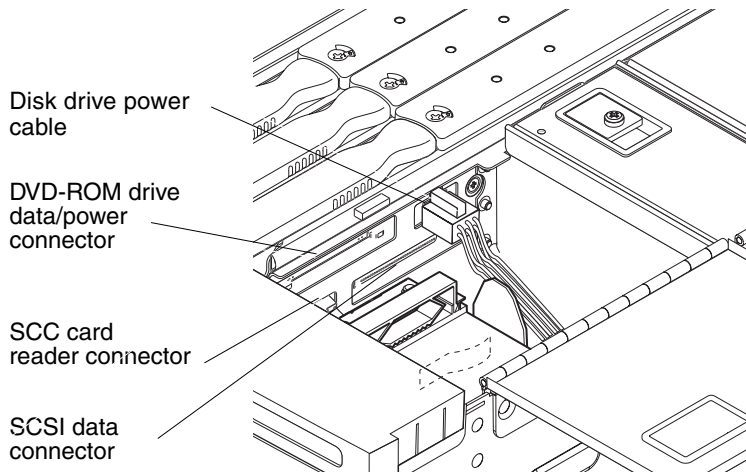

FIGURE 5-18 IB_SSC Assembly Cable and Connector Locations
3. Disconnect the SCSI data cable from the IB_SSC board (FIGURE 5-18).
6. Reconnect the replacement SCSI data cable to the IB_SSC board (FIGURE 5-18).